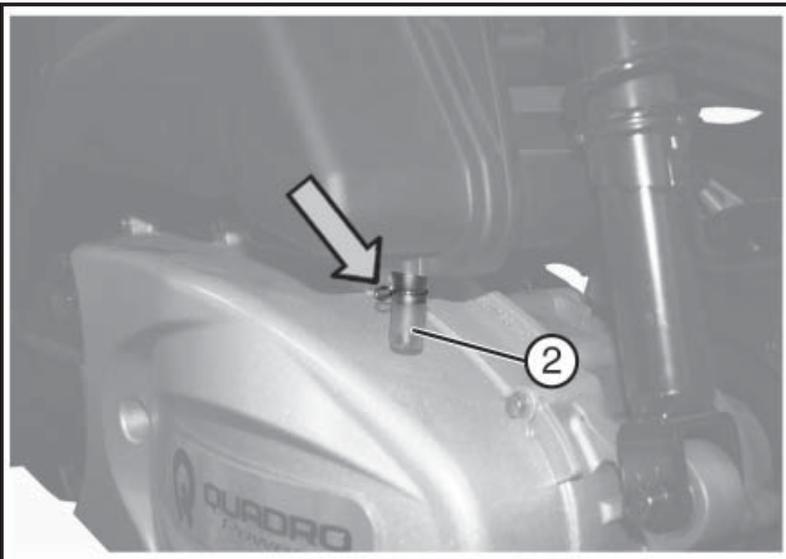

Fig. 02
6.7 OIL VAPOUR RECOVERY (Fig. 02)